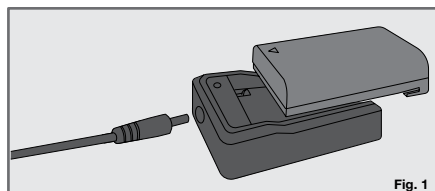
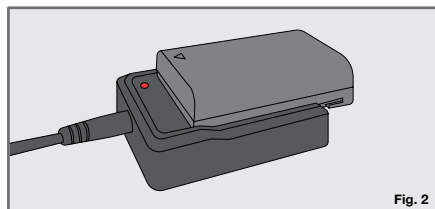

Fig. 1
Fig. 2
- Insert the charger into the charging adaptor. Connect the li-ion battery onto the charging adaptor (Fig.1 & Fig.2).